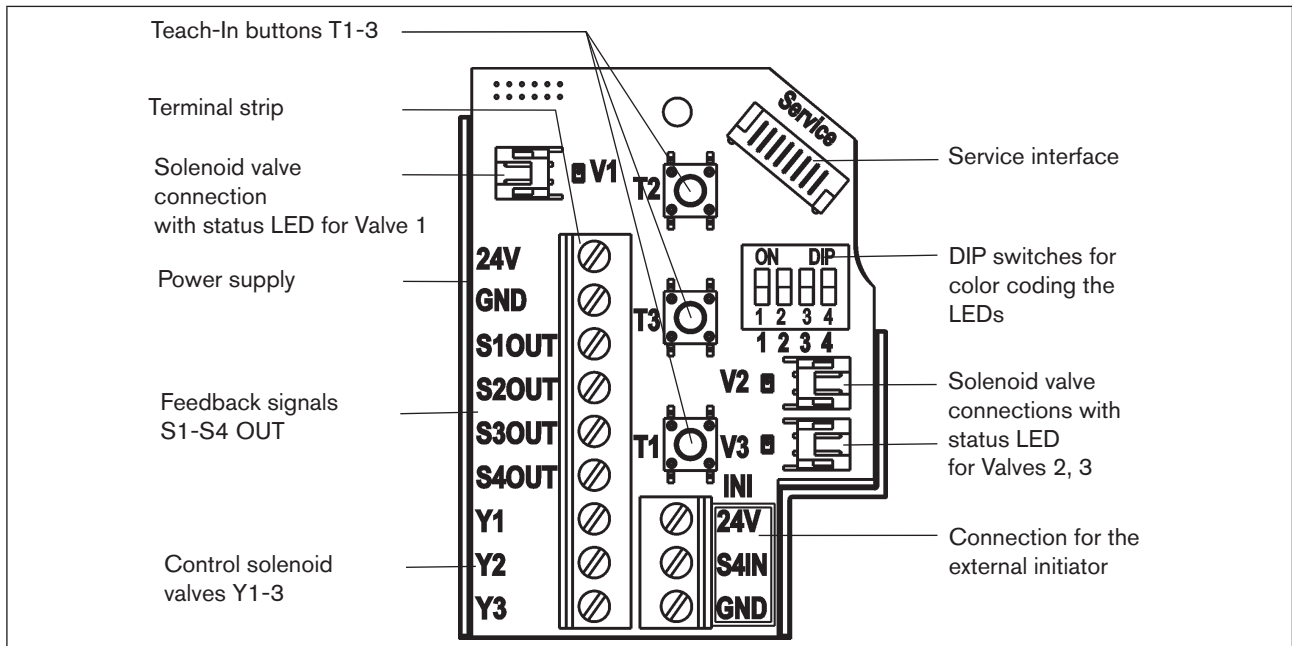

Fig. 14: 24 V DC electronics module
- Connect the wires to the connection terminals according to the connection configuration described in "Fig. 14".